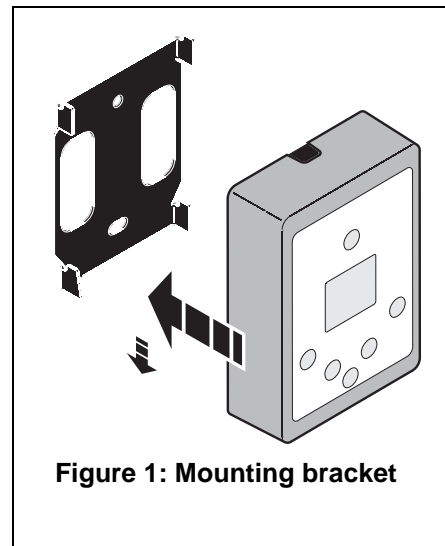

Figure 1: Mounting bracket
1. See Figure 1. Separate the control unit from its mounting bracket (you may need to loosen the grub screw in the bottom of the control unit housing to release it).